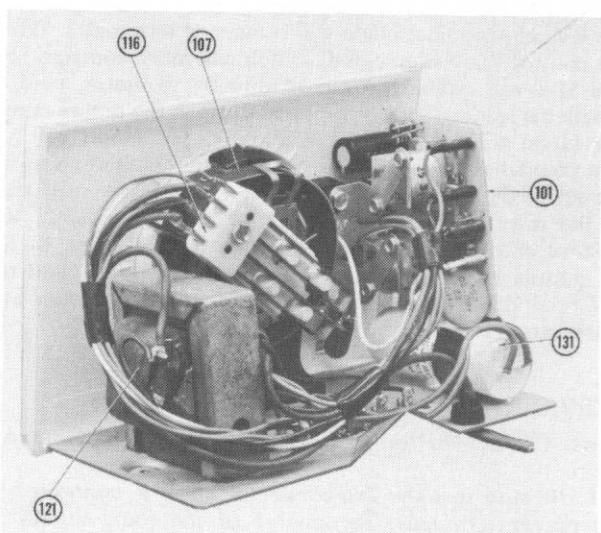

Fig. 75. Internal Components—Model C-225A Control Box.
3. Viewing the switch assembly (Item 116, Fig. 75) from the rear, switch contacts SI-1 and SI-4 should be closed and primary input contacts SI-2 and SI-3 should be open and have approximately $\frac{1}{16}$ inch clearance.
Rotor operates slowly or sluggishly. Check size and length of five-conductor cable (see Fig. 4). Change capacitor (Item #131, Fig. 75).